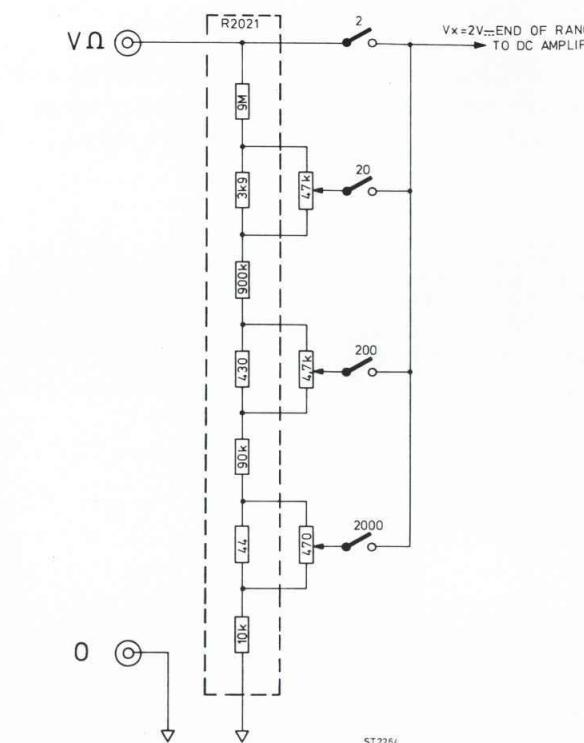

Fig. 16. DC-voltage measurements
**7.2. Analogue section****7.2.1. D.C. Voltage measurements (Fig.16)**